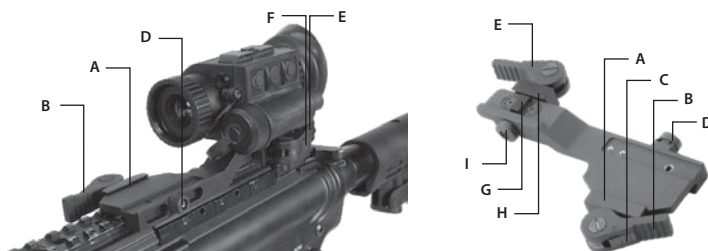

FIGURE 3-6. MOUNTING THE Q14 TO A WEAPON WITH A QUICK-RELEASE PICATINNY MOUNT ADAPTER
1. While pushing down on the lever holder (C), turn the lever (B) backwards to loosen the QRM clamping device (A).
2. Install the QRM on the weapon rail by inserting the stop (not shown in Figure 3-6) into one of transverse slots of the weapon rail.